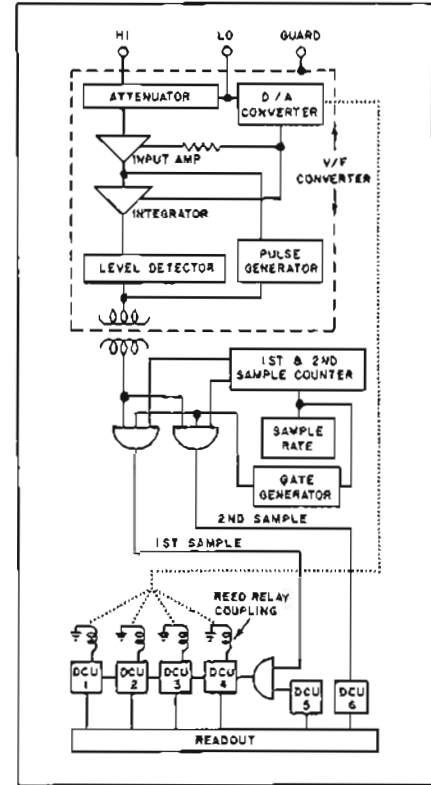

Figure 6. Block diagram of HP 3460B DVM.
**Integrating/Potentiometric Types:** by using techniques exploiting the best qualities of several systems, a totally new result is achieved in the HP 3460B. Besides being an integrating-type voltmeter which continually measures the true average of the input voltage, it is also a potentiometric type obtaining high accuracy from precision resistance ratios and a stable reference voltage. A block diagram of the Integrating/Potentiometric Digital Voltmeter is shown in Figure 6.